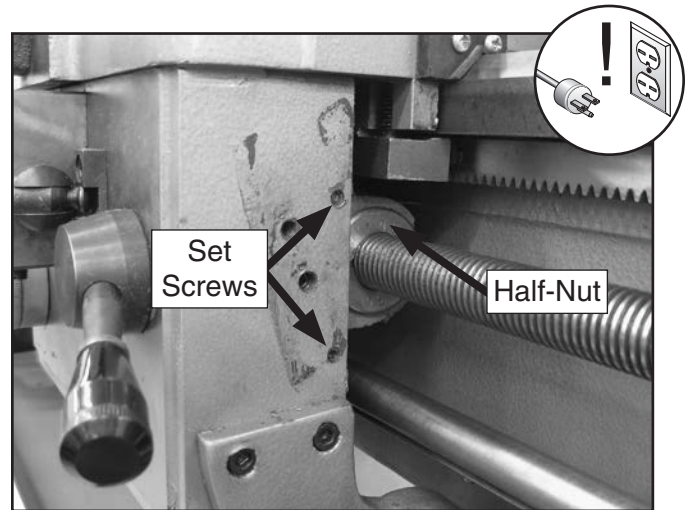

Figure 108. Half-nut guide bar set screws.
3. Loosen the two set screws shown in **Figure 108** one full turn.